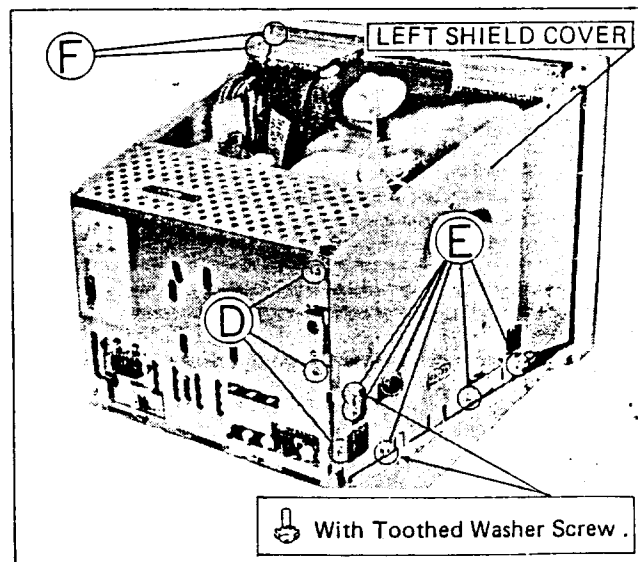

Fig. 4
3. Remove the two screws marked (F) shown in Fig. 4, and remove the left shield.